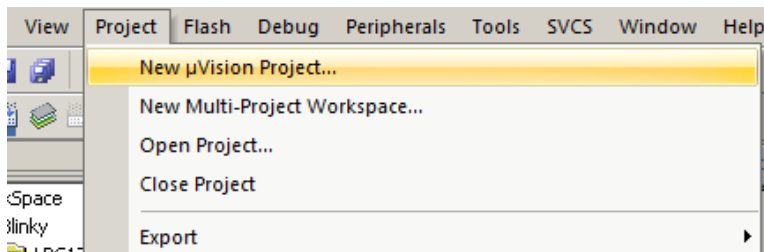

Figure 5.1: Keil IDE: Create a New Project
- Project  $\rightarrow$  New  $\mu$ Vision Project (See Figure 5.1)